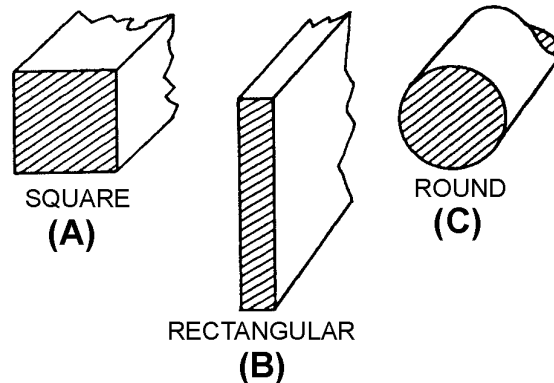
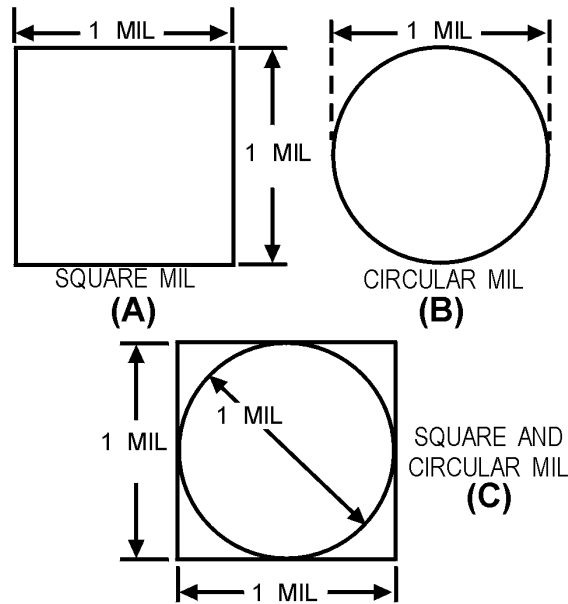

Figure 1-1.—Cross-sectional areas of conductors.
Figure 1-2.—A comparison of circular and square mils.
The square mil is a unit of measurement used to determine the cross-sectional area of a square or rectangular conductor (views A and B of figure 1-1). A square mil is defined as the area of a square, the sides of which are each 1 mil. To obtain the cross-sectional area of a square conductor, multiply the dimension of any side of the square by itself. For example, assume that you have a square conductor with a side dimension of 3 mils. Multiply 3 mils by itself (3 mils  $\times$  3 mils). This gives you a cross-sectional area of 9 square mils.
The circular mil is the standard unit of measurement of a round wire cross-sectional area (view C of figure 1-1). This unit of measurement is found in American and English wire tables. The diameter of a round conductor (wire) used to conduct electricity may be only a fraction of an inch. Therefore, it is convenient to express this diameter in mils to avoid using decimals. For example, the diameter of a wire is expressed as 25 mils instead of 0.025 inch. A circular mil is the area of a circle having a diameter of 1 mil, as shown in view B of figure 1-2. The area in circular mils of a round conductor is obtained by squaring the diameter, measured in mils. Thus, a wire having a diameter of 25 mils has an area of  $25^2$ , or 625 circular mils. To determine the number of square mils in the same conductor, apply the conventional formula for determining the area of a circle ( $A = \pi r^2$ ). In this formula, A (area) is the unknown and is equal to the cross-sectional area in square mils,  $\pi$  is the constant 3.14, and r is the radius of the circle, or half the diameter (D). Through substitution,  $A = 3.14$ , and  $(12.5)^2$ ; therefore,  $3.14 \times 156.25 = 490.625$
If a wire has a cross-sectional diameter of 1 mil, by definition, the circular mil area (CMA) is  $A = D^2$ , or  $A = 1^2$ , or  $A = 1$  circular mil. To determine the square mil area of the same wire, apply the formula  $A = \pi r^2$ ; therefore,  $A = 3.14 \times (.5)^2$  (.5 representing half the diameter). When  $A = 3.14 \times .25$ ,  $A = .7854$  square mil. From this, it can be concluded that 1 circular mil is equal to .7854 square mil. This becomes important when square (view A of figure 1-2) and round (view B) conductors are compared as in view C of figure 1-2.